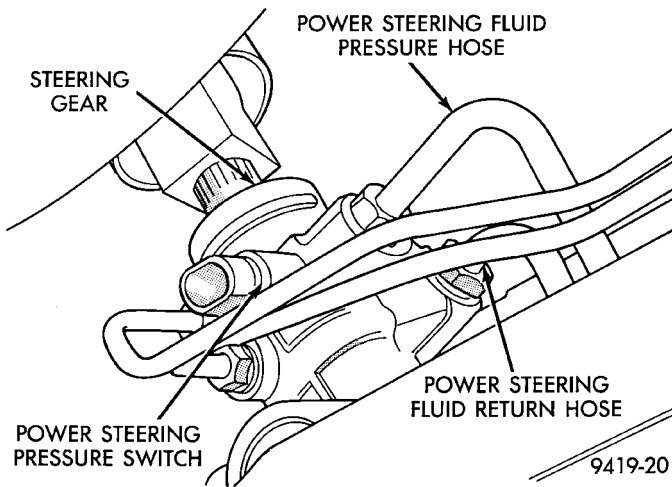

Fig. 9 Power Steering Pressure Hose At Steering Gear
(3) Disconnect power steering pressure hose (Fig. 9) at power steering gear. Drain power steering fluid from power steering pump and hose through open end of hose.
(10) Route power steering pressure hose to pressure port on power steering gear. Install power steering pressure hose, on steering gear and loosely install tube nut into steering gear (Fig. 9). **Tighten and torque tube nut after routing bracket is installed, correctly positioning hoses in vehicle.**